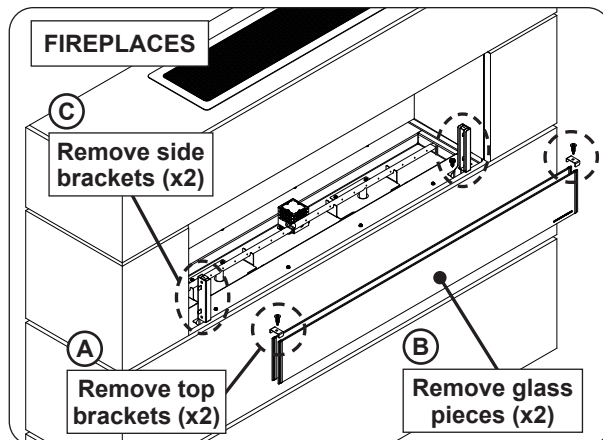
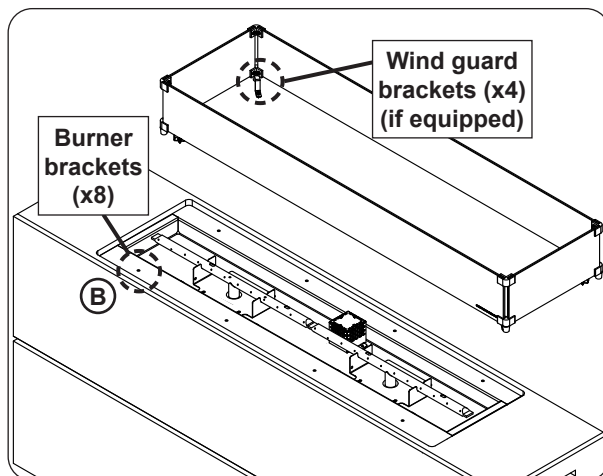

Fig. 41-1 Wind guard removal- fireplaces
Fig. 41-2 Wind guard removal- firetables
1. If equipped, remove the wind guard assembly from the burner. See Fig. 41-1 for fireplaces and Fig. 41-2 for firetables.